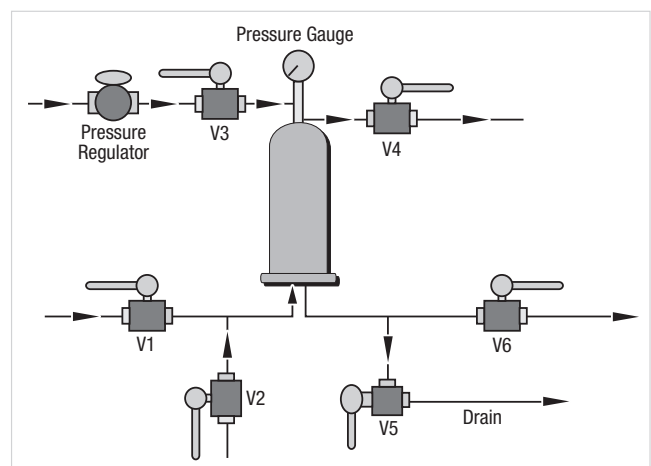

Figure 5. PHT (manual method).
## 2. Procedure (Manual Testing — Figure 5)
- Configure the system as shown in Figure 5.